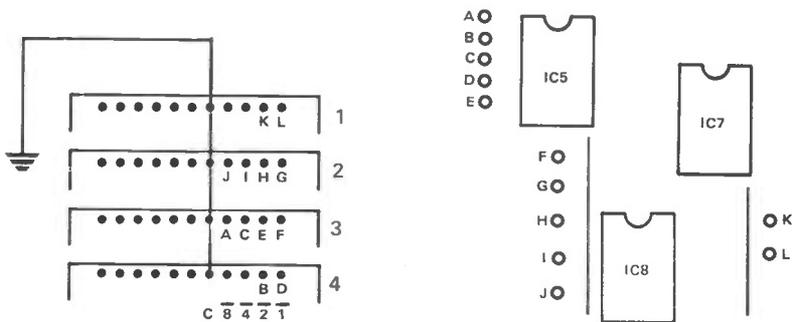

Figure 6: Connections to thumbwheel switches for the 720 Channel Airband Receiver.
- 9) The connections to the thumbwheel switches are shown here in *Figure 6*.